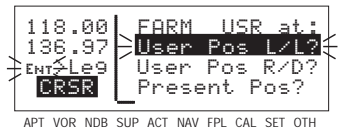

Figure 4-82
4. Move the cursor down to the second line, over **User Pos L/L?** (figure 4-82).